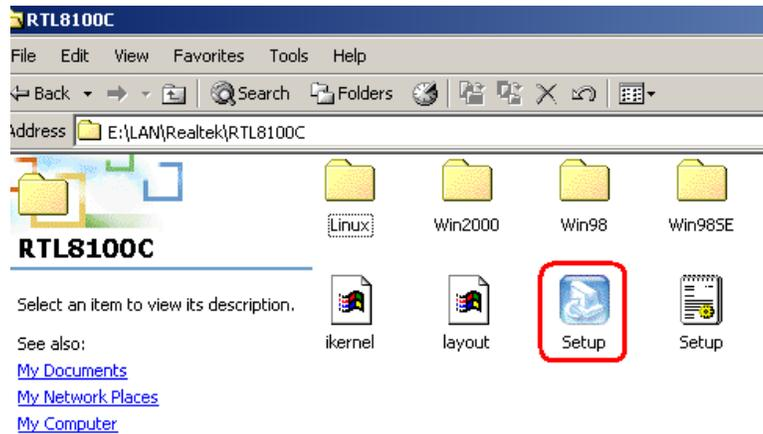

Figure 6-25: Locate the Setup Program Icon
Step 5: Locate the **Setup** program icon. See **Figure 6-25**.
Step 6: Double click the **Setup** program icon in **Figure 6-25**.